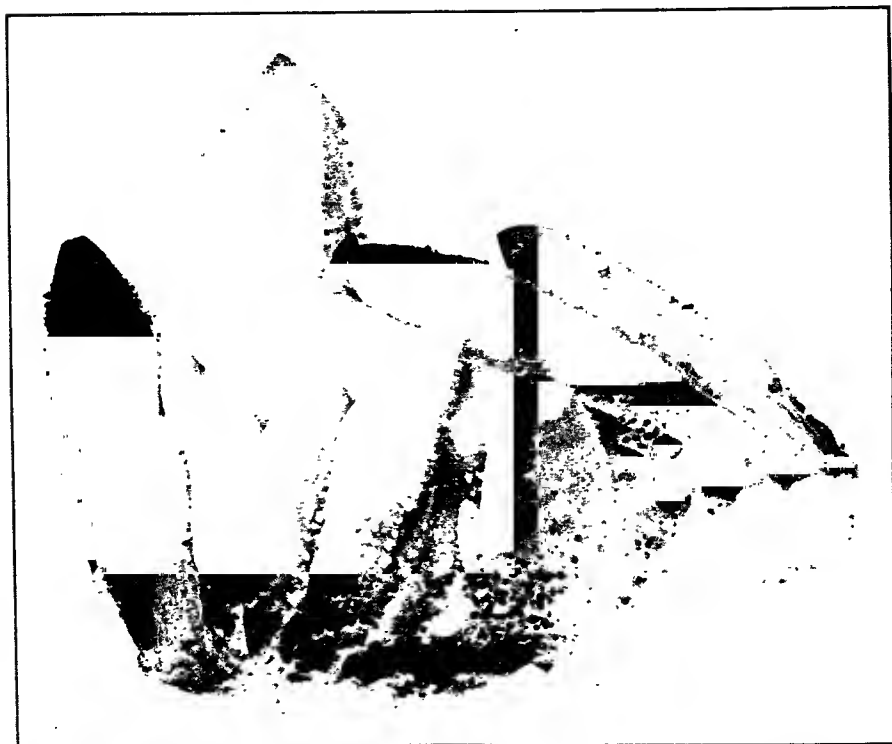

Figure 244. Milky Quartz, Group of Crystals, Ouray County, Colorado.
*Milky Quartz* is *milk-white* to snow white, sometimes in fine crystals, figure 244, but usually massive. It often forms large veins in other rocks